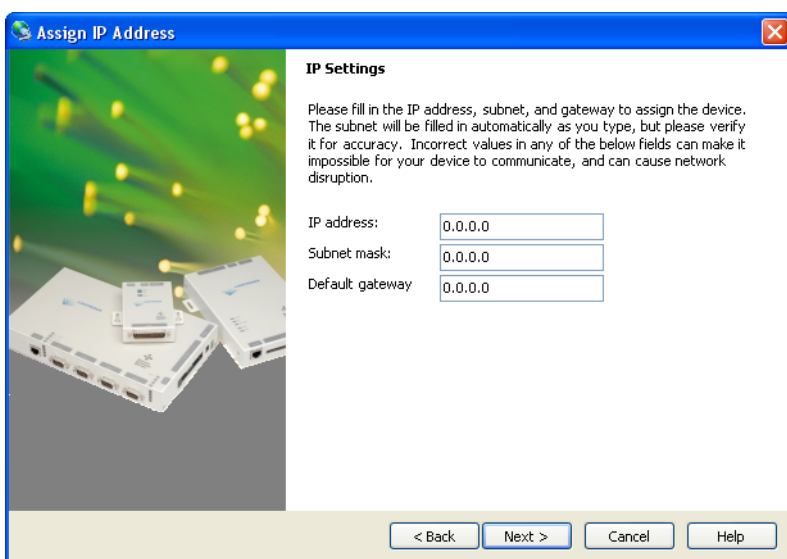

Figure 22: IP Settings Window
- Click on the Assign a specific IP address radio button, then click on the  button. The IP Settings window appears (see Figure 22).